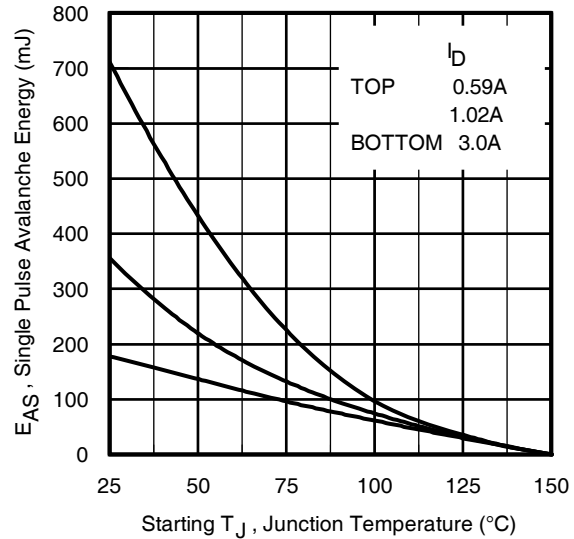

Fig 13. Maximum Avalanche Energy vs. Drain Current
- ② Starting $T_J = 25^\circ\text{C}$, $L = 40mH$, $R_G = 25\Omega$, $I_{AS} = 3.0A$. (See Figure 13).
- ③ $I_{SD} = 6.0A$, $di/dt \leq 416A/\mu s$, $V_{DD} V_{(BR)DSS}$, $T_J \leq 150^\circ\text{C}$.
- ④ Pulse width $\leq 300\mu s$; duty cycle $\leq 2\%$.
- ⑤ $C_{oss \text{ eff.}}$ is a fixed capacitance that gives the same charging time as C_{oss} while V_{DS} is rising from 0 to 80% V_{DSS} . $C_{oss \text{ eff. (ER)}}$ is a fixed capacitance that stores the same energy as C_{oss} while V_{DS} is rising from 0 to 80% V_{DSS} .
- ⑥ R_{θ} is measured at T_J approximately 90°C
- ⑦ When mounted on 1" square PCB (FR-4 or G-10 Material). For recommended footprint and soldering technique refer to application note # AN- 994 techniques refer to application note #AN-994.